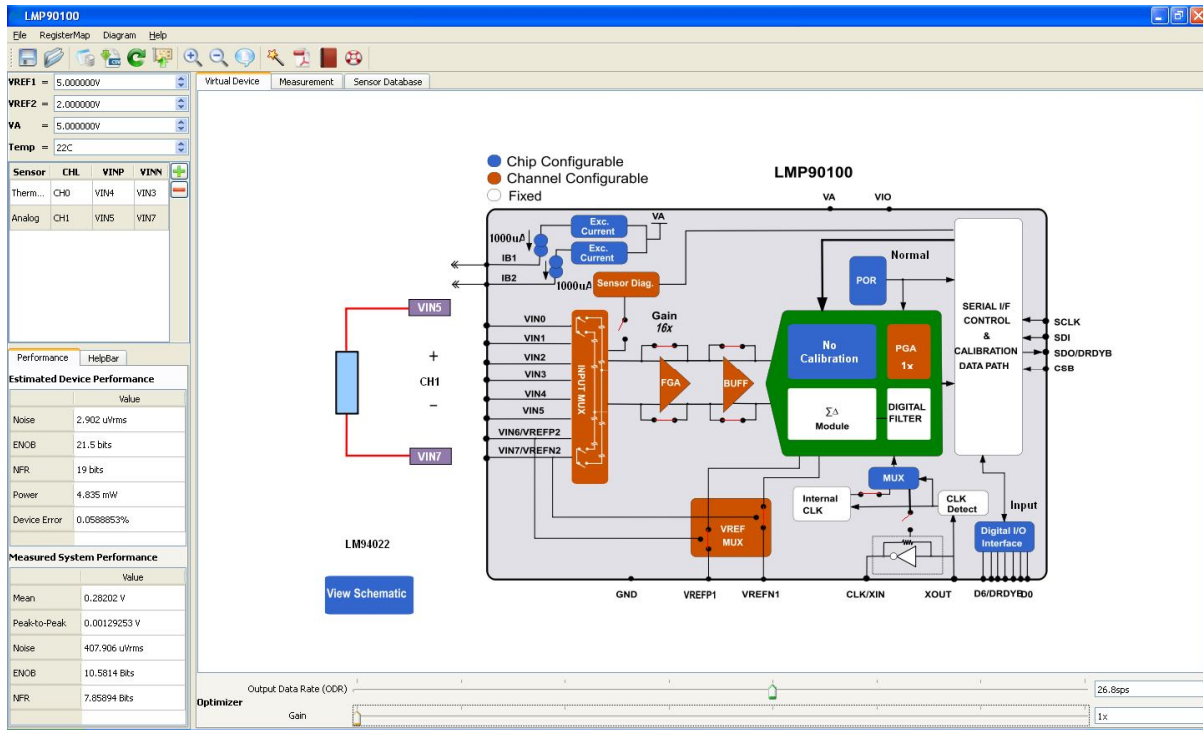

Figure 17 - Recommended LMP90100 Configuration for the LM94022
2. **Setting Up the LM94022 Temperature Sensor** - follow the step-by-step instructions under the “**HelpBar**” mini-tab to configure the device for an LM94022 sensor application. The recommended configuration can be seen in Figure 17.